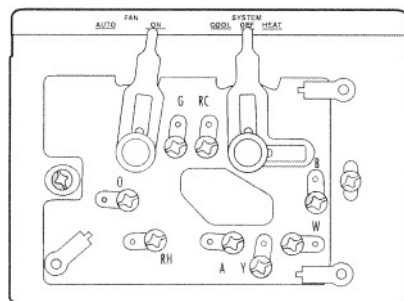

FIGURE 2 THERMOSTAT SUB-BASE
1. Pull wire through opening near center of sub-base and connect wires beneath terminal screws (See figure 2 for typical wiring for each application. Also refer to the following subsections for special system configurations).